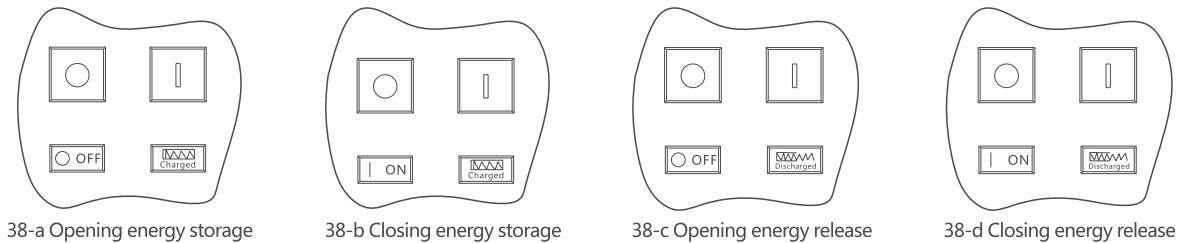

Figure 38 Opening and closing indications
- 8.3.4 Check whether the opening and closing indications are correct and reliable. See Figure 38.